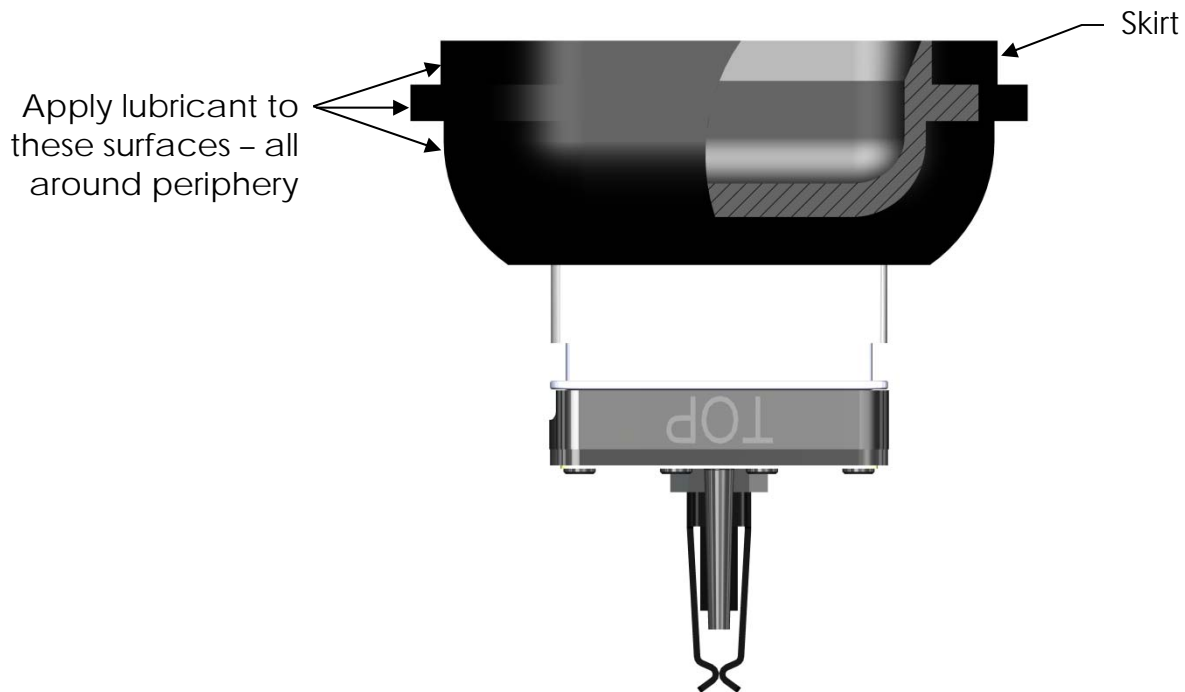

Figure 3 - Rolled back skirt position
- 3.11. The first step when installing a pushbutton with a watertight seal into a switch/indicator is to roll back the skirt portion of the watertight seal as shown in Figure 3. Now apply a light coating of lubricant (supplied in the kit) around the periphery of the three surfaces shown. The lubricant helps to fully seat the skirt into the groove in the retainer. Use caution that no lubricant is transferred to faceplate surfaces.
- 3.13. If removal of the pushbutton with watertight seal from the switch/indicator assembly becomes necessary, careful attention is required. Pinch the skirt, with your fingers, in the area of the seal at one corner of the pushbutton and pull outward and upward to unseat the seal. Be careful not to tear, cut or rupture the seal material. At the same time, while pulling outward and upward, roll back the skirt portion of the watertight seal to the position as shown in Figure 3. Now, grasp the pushbutton behind the rolled back skirt and pull straight out of the switch/indicator assembly.